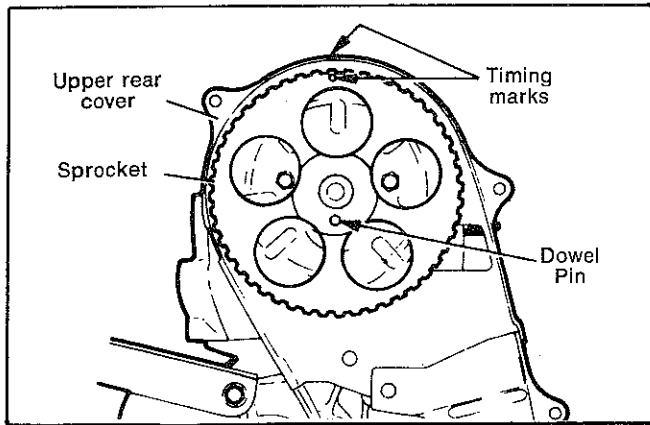

Fig. 51—Camshaft sprocket timing marks
(4) Align the camshaft and crankshaft sprocket timing marks (Fig. 51 and 52).